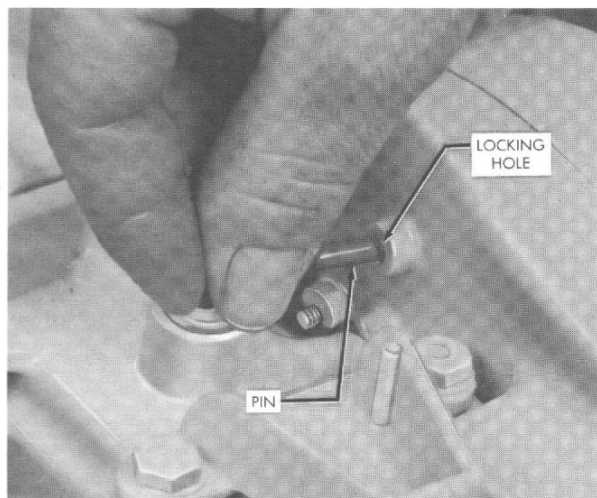

Figure 3. Locking Flywheel
3. Lock the flywheel by inserting a pin or screw through the hole in the exposed side of the crankcase cover and through the timing hole in the flywheel rim (see Figures 3 and 4.)